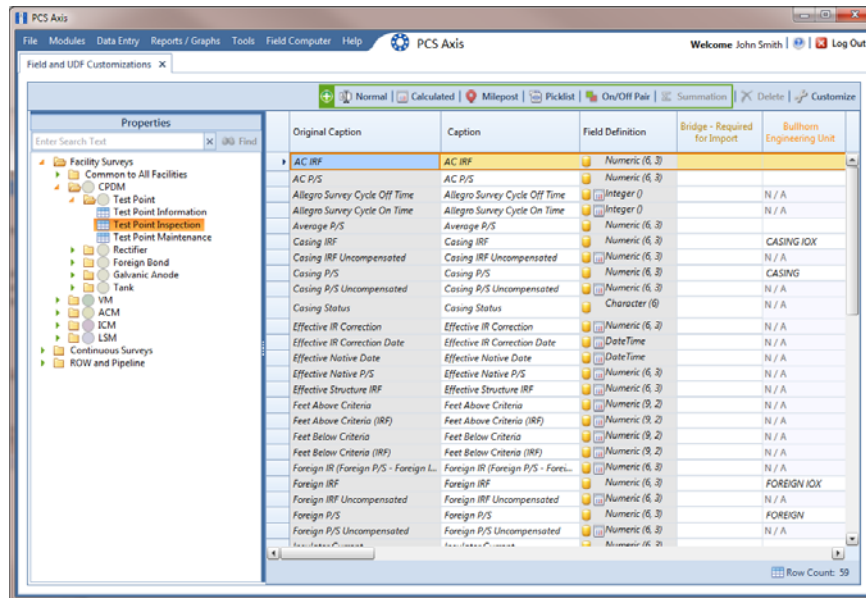

Figure 3-48. Field and UDF Customizations
- 1 Click **Tools > Field and UDF Customizations** to open the *Field and UDF Customizations* window (Figure 3-48).
- 3 Select an item in the *Properties* panel that includes the data entry grid you want to add a *Dynamic Picklist* UDF. For example, double-click **Facility Surveys > CPDM > Test Point > Test Point Inspection** to display a grid with fields and property settings related to the *Test Point Inspection* data entry grid (Figure 3-48).
- 1 If the *Field and UDF Customizations* window is not open, click **Tools > Field and UDF Customizations** to open the window (Figure 3-48, page 98).